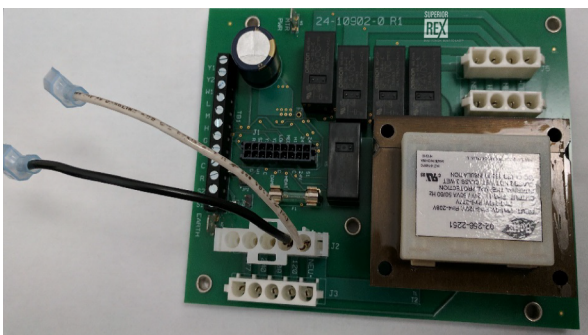

Figure 19 – WH2 on J2 of FRBii
- vii. Take BLACK wire removed from the “LINE VOLTAGE IN” portion of FCRB in Step 4 and install on male quick-connect/BLACK wire on WH3 (see Figure 19).